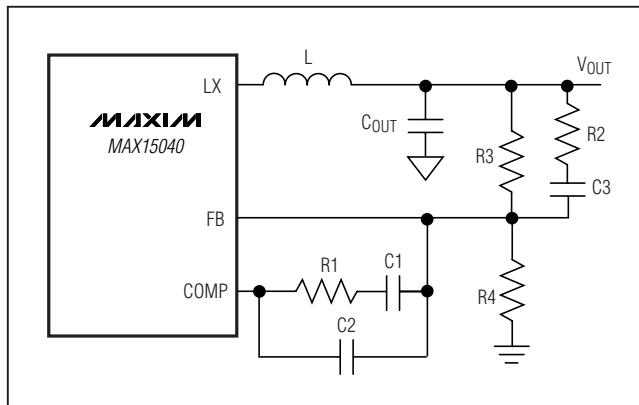
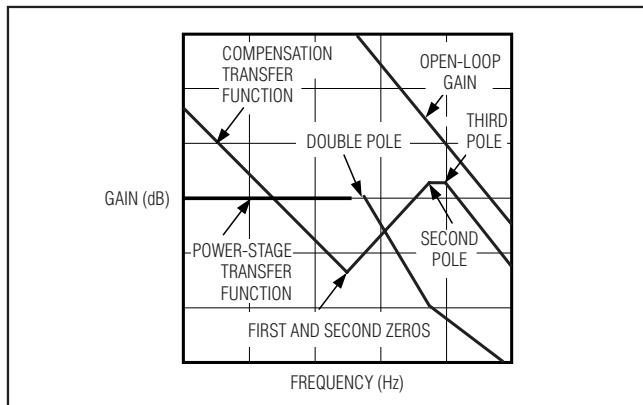

Figure 4. Type III Compensation Network
Figure 5. Type III Compensation Illustration
The MAX15040 high switching frequency allows the use of ceramic output capacitors. Since the ESR of ceramic capacitors is typically very low, the frequency of the associated transfer function zero is higher than the unity-gain crossover frequency,  $f_C$ , and the zero cannot be used to compensate for the double pole created by the output inductor and capacitor. The double pole produces a gain drop of 40dB/decade and a phase shift of  $180^\circ$ . The compensation network must compensate for this gain drop and phase shift to achieve a stable high-bandwidth closed-loop system. Therefore, use type III compensation as shown in Figure 4 and Figure 5. Type III compensation possesses three poles and two zeros with the first pole,  $f_{P1\_EA}$ , located at zero frequency (DC). Locations of other poles and zeros of the type III compensation are given by: